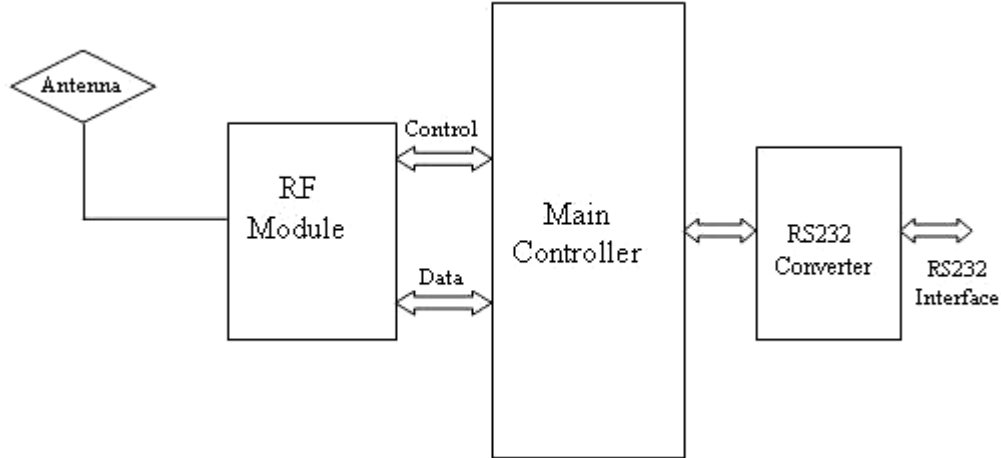

Figure 1: RDSRF-232-A4FZ Block Diagram
- 1) Change the RDSRF-232-A4FZ to configuration mode by changing the switch position as shown in figure1.